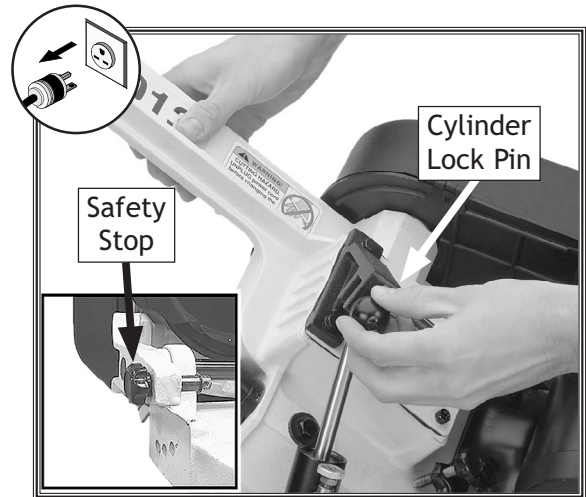

Figure 18. Raising and locking headstock.
2. Remove the cylinder lock pin, raise the headstock to the full vertical position, and push the safety stop inward to lock the headstock in the vertical position (see **Figure 18**).